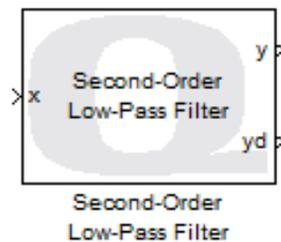

Figure 5.6: Second-order low-pass filter
2. From **QUARC Targets | Continuous** library, drag and drop the **Second-Order Low-Pass Filter** block into the model. This block differentiates a signal while filtering out the noise due to differentiation. The block is shown in Figure 5.6. Set the cut-off frequency parameter to **200** Hz and the Damping ratio to **1**. The input x is the signal to be differentiated. In this case it is the actual position of joint 1 taken from the output q of the **PID Control** block. The output yd will be the differentiated signal. In this case, it would be the velocity of joint 1.